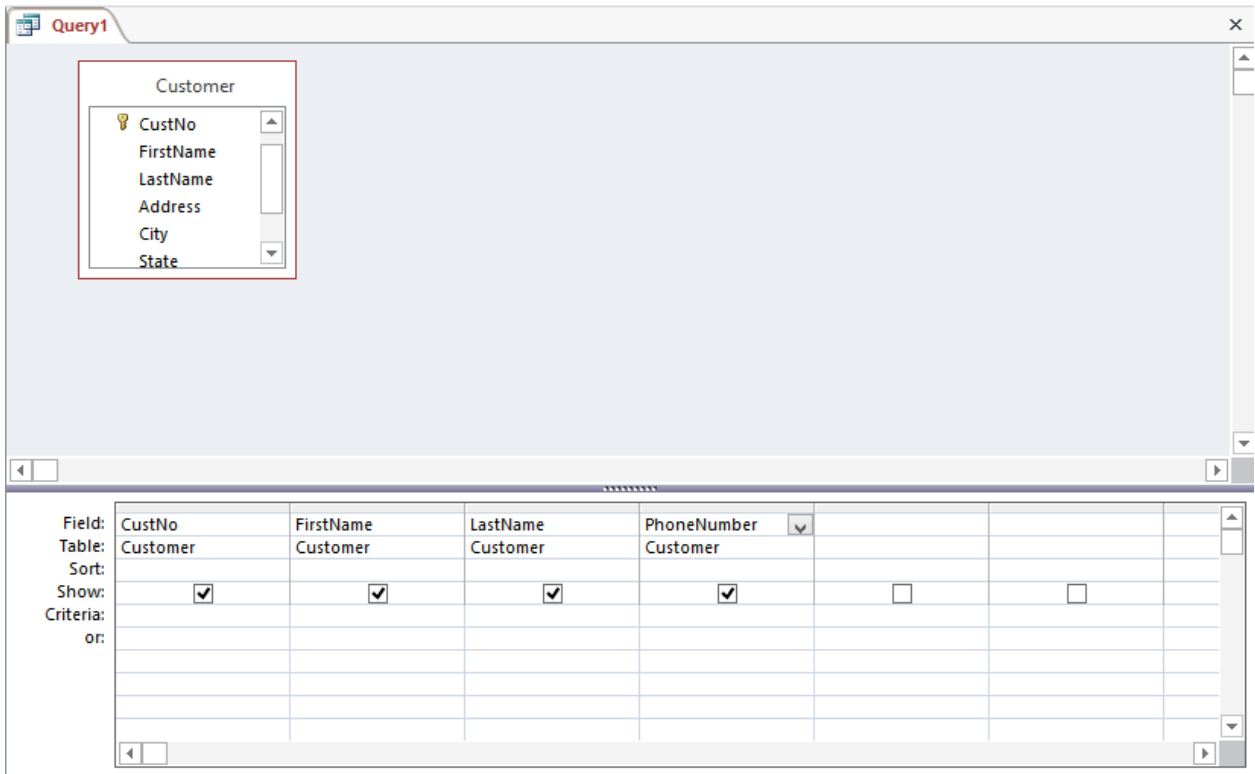

Figure 5: Completed Query Design View
6. Select the Last Field: Select the *PhoneNo* field using the technique demonstrated in step 5. Note that you have to move the small scroll bar down to reveal the *PhoneNo* field. After you have finished, your Query Design window should appear as in Figure 5.